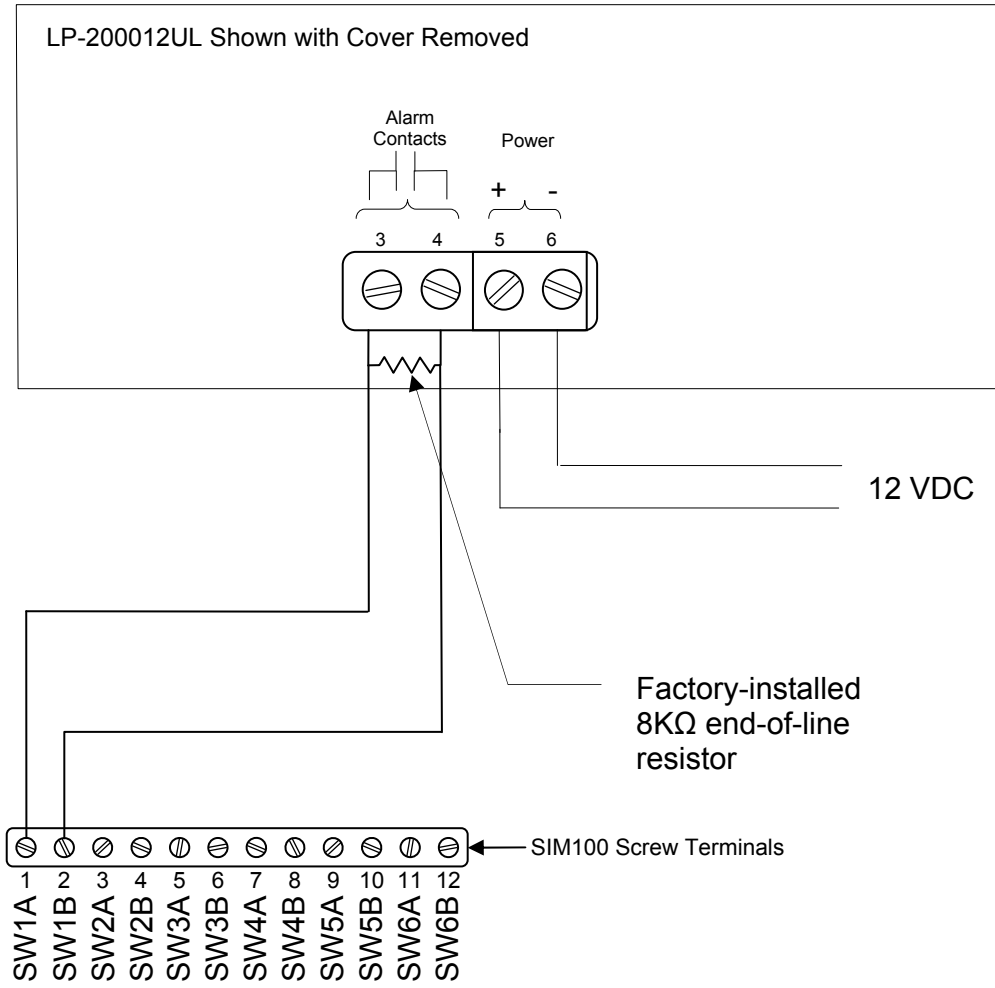

Figure 1 - Wiring Diagram
Please follow these instructions to connect the LP-200012UL to the NMEA 2000 network via a Maretron SIM100 Switch Indicator Module. The wiring diagram appears in Figure 1 on the reverse side of this page. The diagram shows a connection to channel #1, but connections to other channels are similar.
1. Connect the LP-200012UL power terminals to a 12VDC supply that is independent of the NMEA 2000 network power supply, as shown in Figure 1. Powering the unit separately from the NMEA 2000 network allows the detector to work even when the NMEA 2000 network is powered off.
2. Connect the two alarm contact terminals to a free switch channel on the SIM100. The example in Figure 1 shows the detector connected to switch channel 1, terminals SW1A and SW1B. Note: The detector's protective cover must be removed to perform this function.